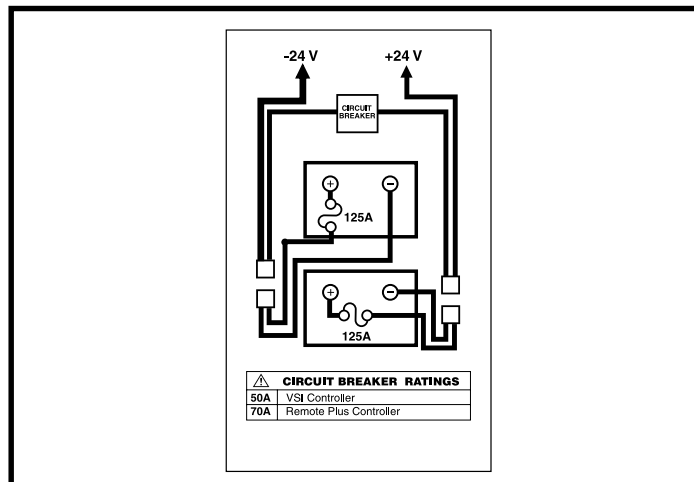

Figure 29. Battery Connections
8. Disconnect the battery harnesses from the positive and negative terminals on the batteries. See figure 29.